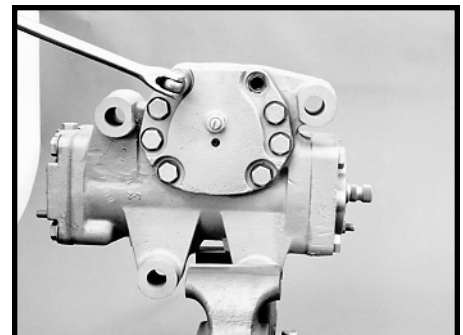

Figure 45
7. Prepare for fluid to drain, and remove eight special ring head bolts (59) from the side cover (56) with a 13/16 inch socket. SEE FIGURE 45.